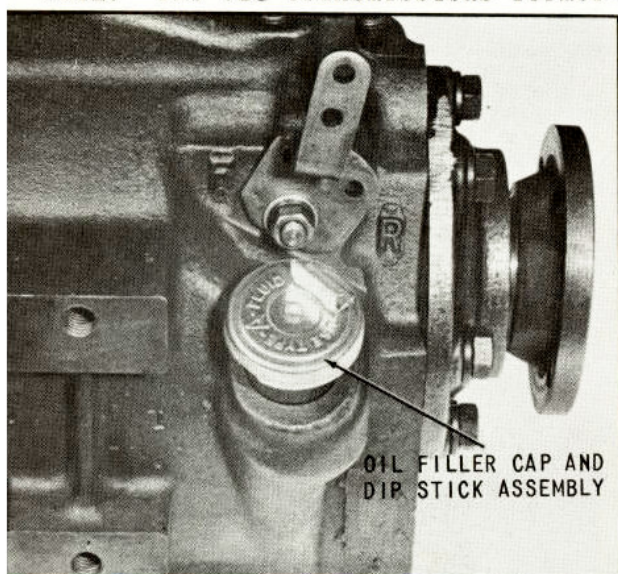

Fig. 82 Installation of Oil Filler Cap and Dipstick Assembly
1. Place oil filler cap and dipstick assembly in the oil filler tube provided on rear left side of transmission case, (Fig. 82). Push down on filler cap and dipstick until assembly "bottoms" on tube, then turn cap to right as far as cap screw permits.